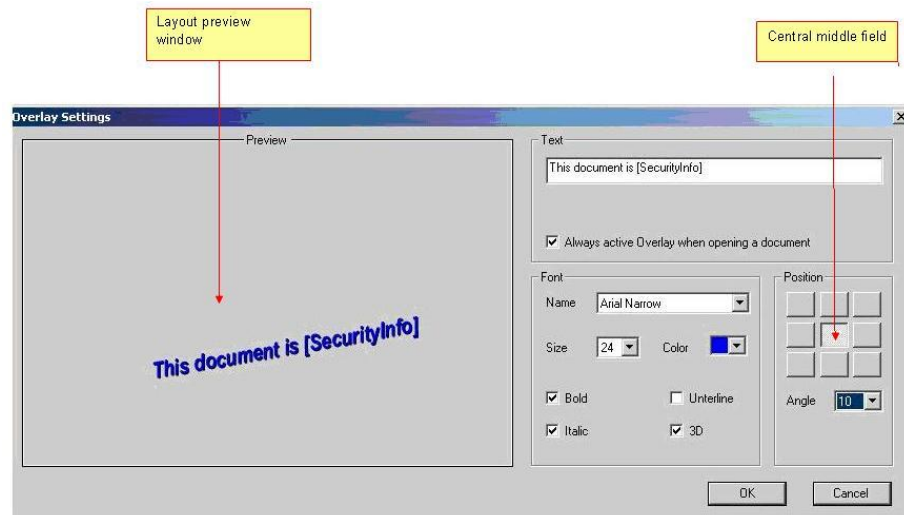

Figure 97: Display Settings in the Layout Preview Window
- The display of the font at a certain angle is available only if you have activated the middle central field under **Position**. The settings are displayed in the layout preview. *Please refer to the Figure 97.*